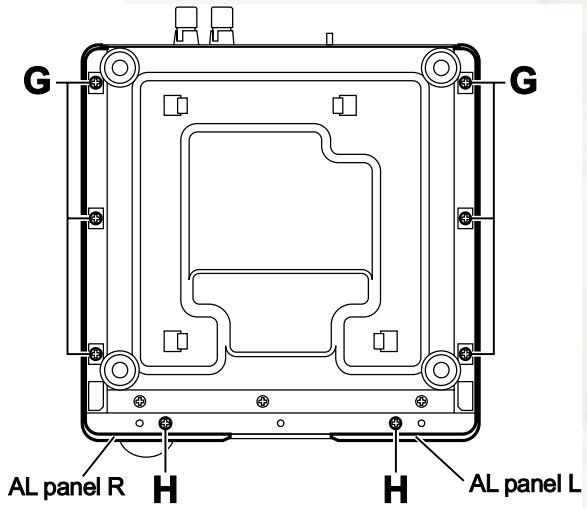

Fig.6
- Remove the six screws **G** and two screws **H** attaching the AL panel L and AL panel R. (See Fig.6.)